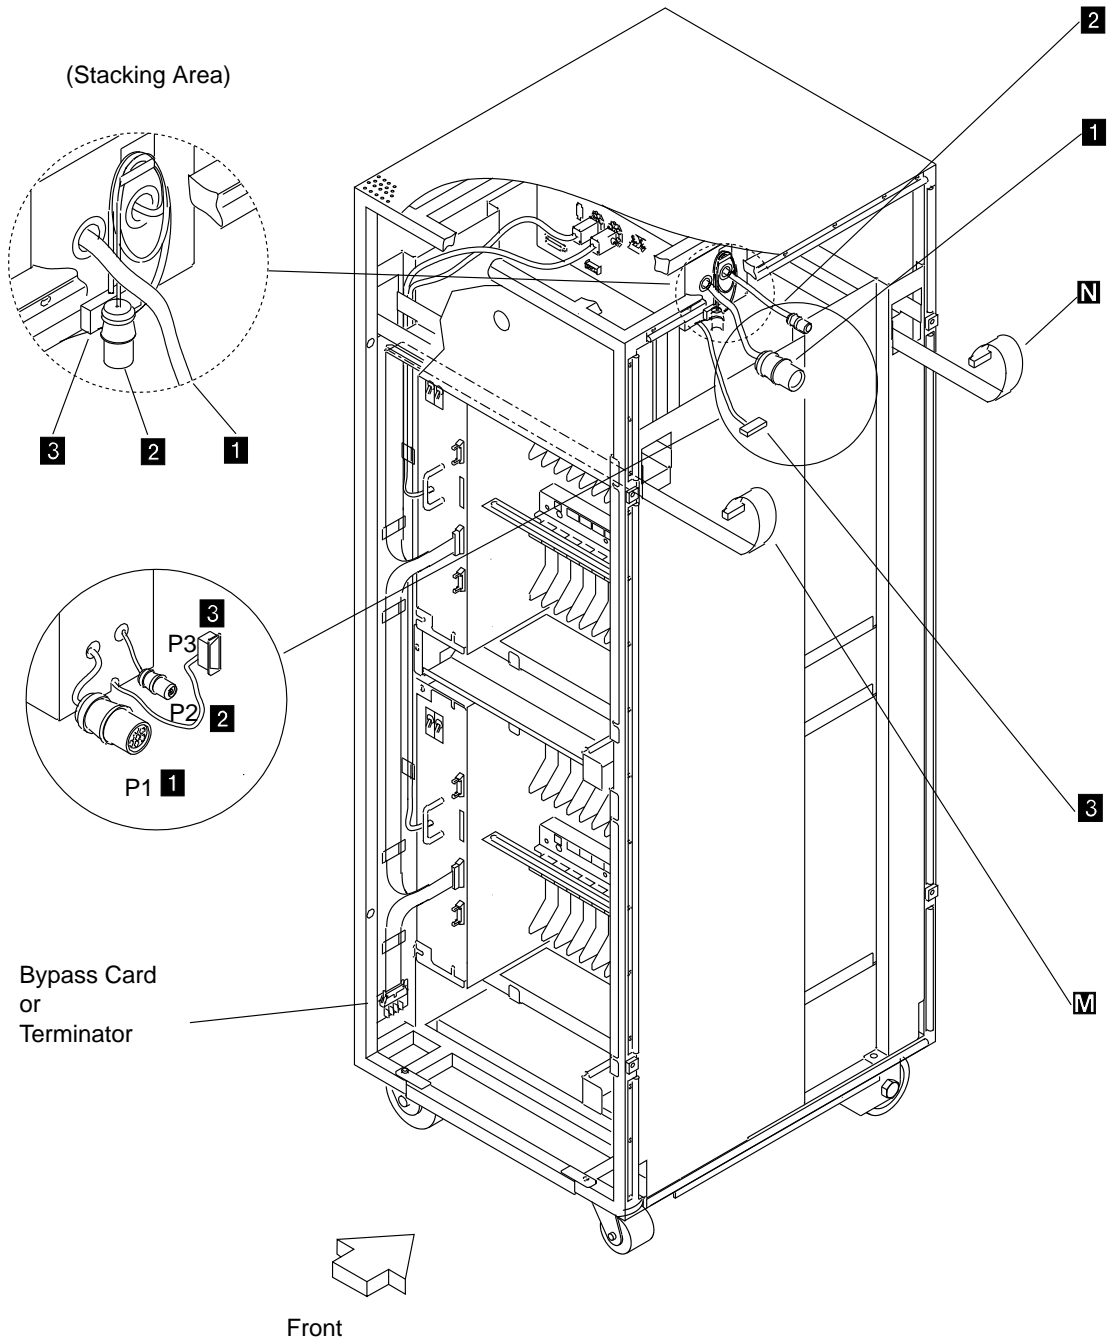

Figure 5-18. Cables from the 3746-L15 (Front View)
- \_\_\_\_ See Figure 5-18 on page 5-21, and familiarize yourself with the table at the top of the page.
- Step 1. \_\_\_\_ Referring to Figure 5-18 on page 5-21, locate the AC power cable **1**, and the DC cable **2**.
- \_\_\_\_ Referring to Figure 5-18 on page 5-21, in 3746-L15 locate the front cable **M**, labeled 05H-A0. Route cable **M** to the front of the adjacent 3746-L14, and plug it to the lower side of the bypass card at 05H-A0.
- \_\_\_\_ Referring to Figure 5-18 on page 5-21, in the 3746-L15 locate the rear flat cable **N**, labeled 05J-A0. Route cable **N** to the rear of the adjacent 3746-L14, and plug it to the lower side of the bypass card at 05J-A0.
- Step 1. \_\_\_\_ Referring to Figure 5-18 on page 5-21, in 3746-L15 locate cable **3**.